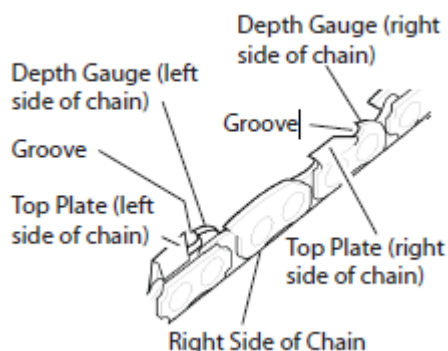

Fig.15
4. Hold fi le guide level. Make sure 30° mark on file guide is parallel to center of guide bar (see **Fig.15**). This will insure that you file cutters at 30° angle.
5. File from inside towards outside of cutter until sharp. Only file in this one direction (see **Fig.15**). (Note: Two or three strokes with file should sharpen cutter.)